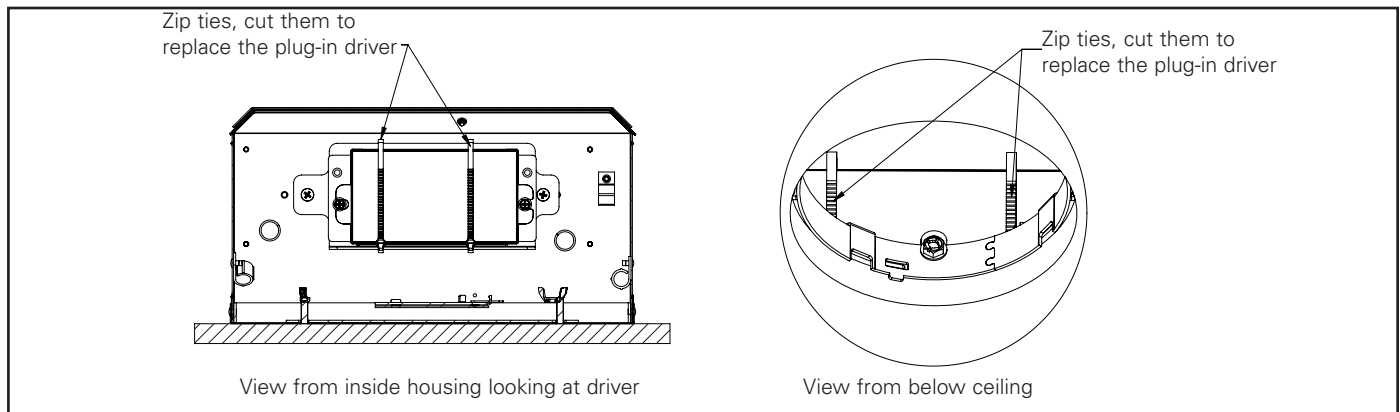

Figure 27.
7. Locate the two zip ties securing the plug-in driver (see Fig. 27) and cut them using a wire cutter